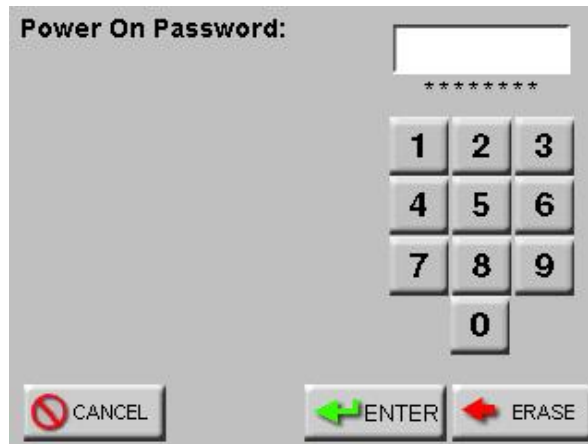

Figure 6-68 POWER ON Password Access Screen
- Press the **ENTER** button to save and return to the previous screen. See Figure 6-68.